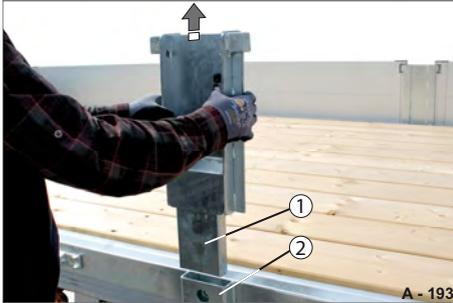

Fig. 134 Removing the middle post
- ▶ Pull the middle post (Fig. 134/1) out of the post pocket (Fig. 134/2).